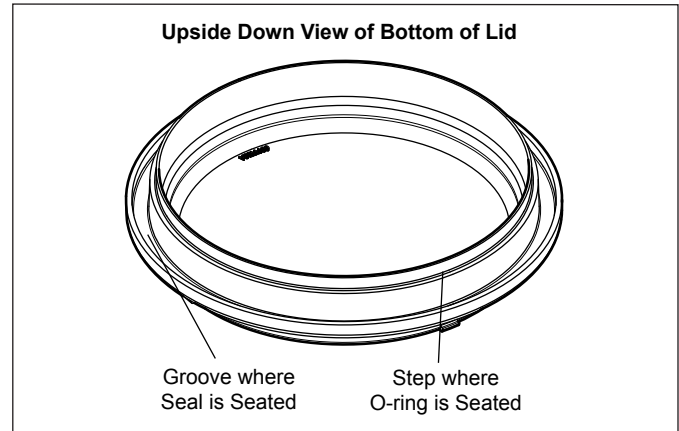

Figure 5. Placement of Blue Pressure Test O-ring
2. Place the blue o-ring on the step located ¼" from the bottom of the lid. See Figure 5.
NOTE The blue o-ring sits approximately ¼" away from the seal. See Figure 5.